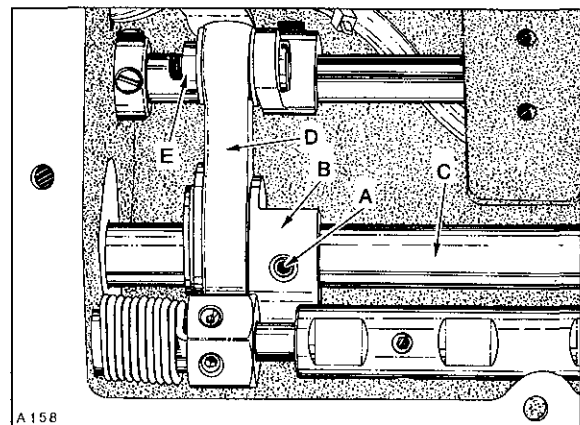
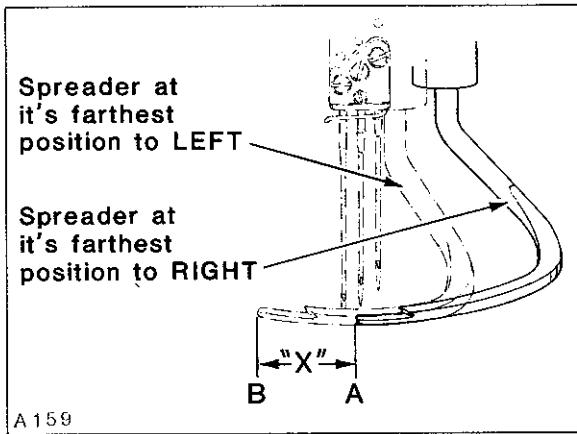

Fig. 28
Fig. 29
While rotating handwheel in operating direction, spreader should be TIMED so it begins to move from extreme left position to the right as needle bar descends  $1/16$  inch (1.6mm) from TOP of stroke. Adjustment can be made by removing top cover, loosen two screws (A, Fig. 28) in hub of spreader drive eccentric (B), advance or retard eccentric on shaft (C) as required. When proper timing is obtained, position eccentric on its shaft (left to right) so as to ensure that spreader connecting rod (D) has MAXIMUM and CENTRALIZED SHAKE (left to right) while tightening screws (A) securely.
Spreader travel ("X", Fig. 29) is measured by placing a scale between the two extreme spreader arc travel points (not considering the arc), as shown between points (A and B). See chart for specified dimensions. Adjustment can be made by loosening nut (E, Fig. 28), move connecting rod (D) upward to shorten spreader travel or downward to lengthen spreader travel. After specified length of travel is obtained, tighten nut (E) securely.